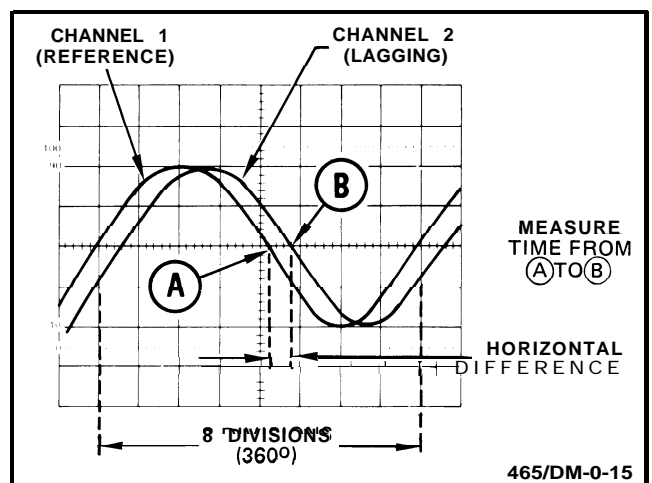
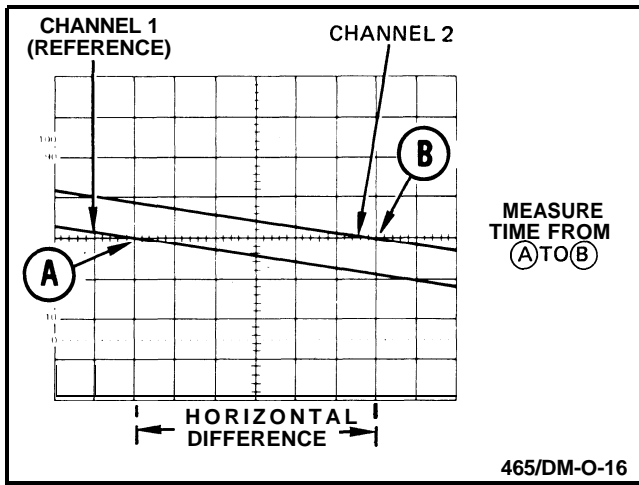

Figure 18. Phase difference.
Figure 19. High-resolution phase difference.
9. Position the displays and adjust the SEC/DIV Variable control so that one reference-signal cycle occupies exactly 8 horizontal graticule divisions at the 50% rise-time points (see Figure 18). Each division of the graticule now represents 45° of the cycle (360° ÷ 8 divisions), and the horizontal graticule calibration can be stated as 45° per division.
EXAMPLE: The horizontal difference is 0.6 division with a graticule calibration of 45° per division as shown in Figure 18.
EXAMPLE: If the sweep rate were increased 10 times with the magnifier (X10 Magnifier out), the magnified horizontal graticule calibration would be 45°/division divided by 10 (or 4.5°/division). Figure 19 shows the same signals illustrated in Figure 18, but magnifying the displays results in a horizontal difference of 6 divisions between the two signals.